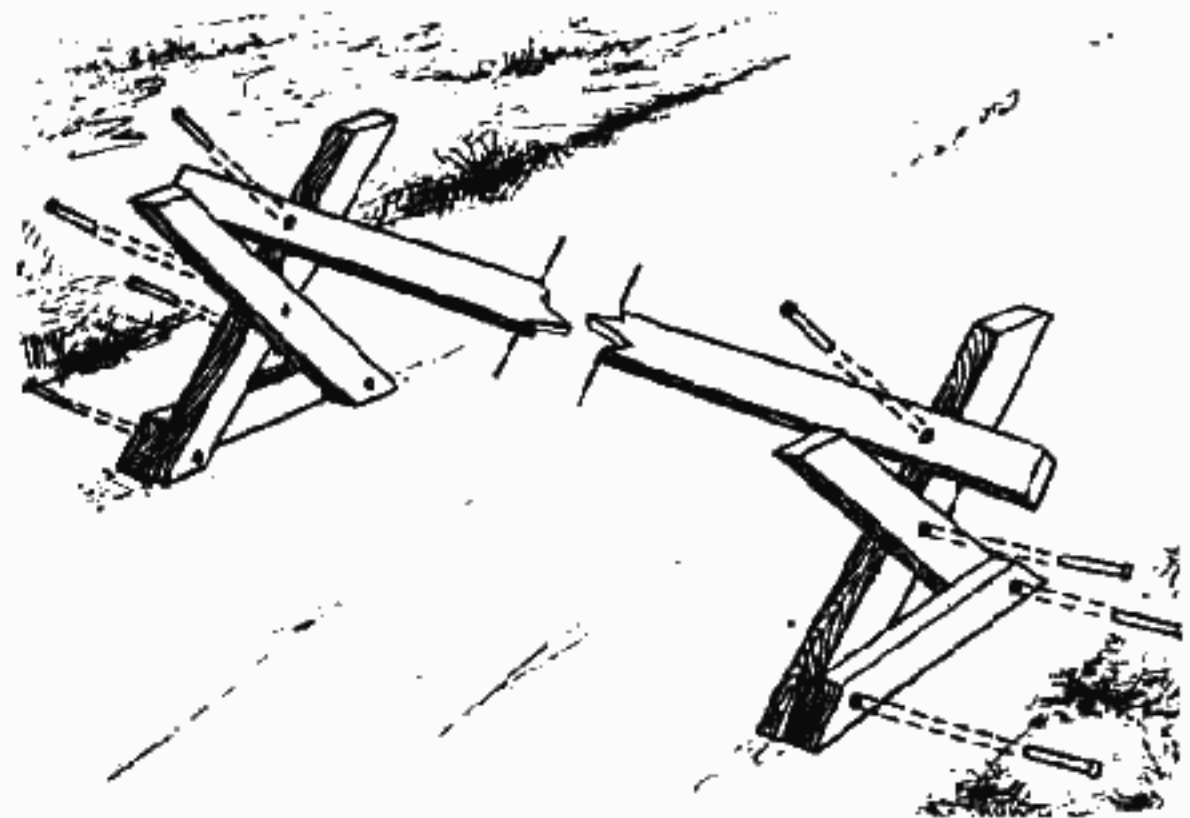

Figure 1
6. **PORTABLE BARRIER** - made so it will fit into a 1/4-ton trailer when collapsed. Need eight 6-foot lengths of 2x6 lumber joined together with bolts (Figure 1). Forms a 12-foot span when erected. When not in use, the barrier may be collapsed by removing the bolts holding the upper horizontal brace